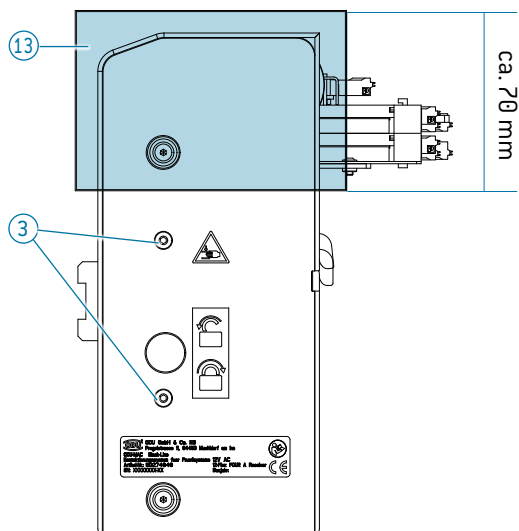

Fig. 197
- If this is not possible, it must at least be ensured that the screws ① on the cover and the marked area ⑬ are accessible. [Fig.197]